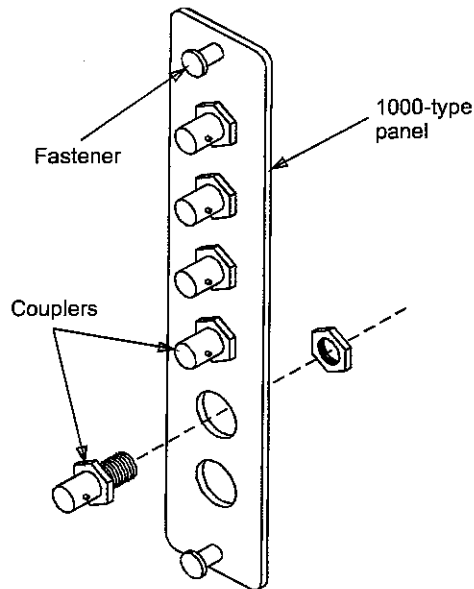

Figure 6—Coupler Installation (ST-Type Shown)
5. Install two 12A1 or 12A2 cable clamps (Figure 6).
7. Install couplers in 1000-type panels (Figure 6).